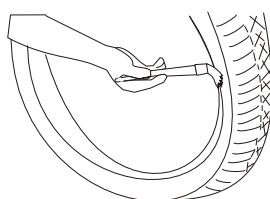

Fig 10
2. Lubricate the tire beads and wheel rim with the special grease which is suggested by the manufacturer. (If the wheel already be took our from the turntable, please install the wheel again) (Fig 10)